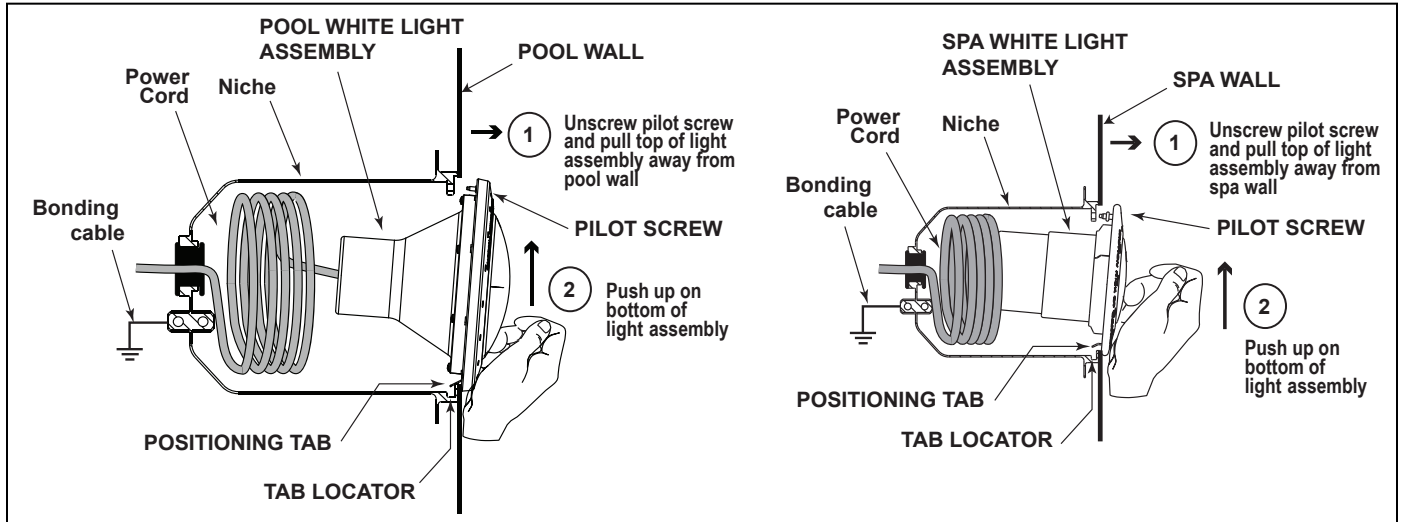

Figure 7. Removing the Pool and Spa White Light Assembly for Lamp Replacement
- One (1) new lamp. See Table 1 for specifications.
3. To remove the light assembly, unscrew the special pilot screw at the top of the face ring, remove light assembly from niche and gently place assembly on the deck. It is not necessary to drain down the pool or spa. See Figure 7.